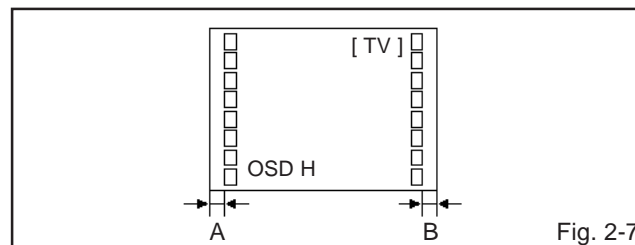

Fig. 2-7
5. Press the VOL. UP/DOWN on the remote control until the difference of A and B becomes minimum. (Refer to Fig. 2-7)